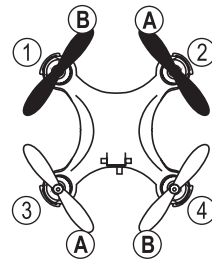

Figure 12
The front rotors (figure 12, items 1 and 2) must have black rotors. Rotor 1 turns clockwise, rotor 2 turns counter clockwise.
The rear rotors (figure 12, items 3 and 4) must have white rotors. Rotor 3 turns counter clockwise, rotor 4 turns clockwise.